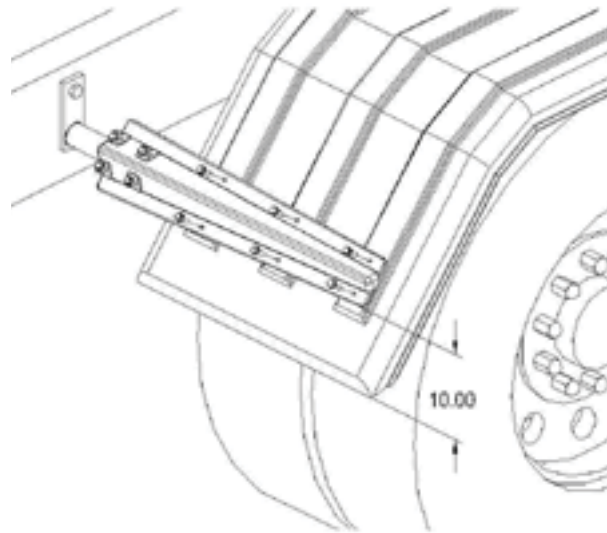

Figure 6
- C. Make sure the brackets are within 10" of the bottom of the fender to avoid wind blowing the fender back into the tire. If the front fender bracket is mounted higher than 10", run a piece of steel strapping on the inside of the fender to give it extra strength (see Figure 6).